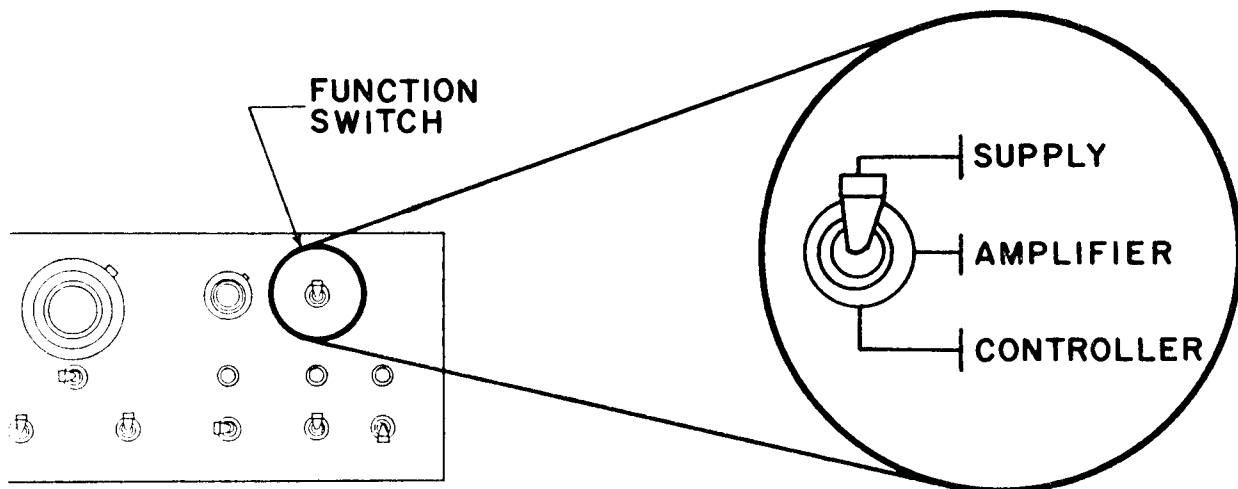

Figure 2. FUNCTION Switch in SUPPLY Position
- b. Set the FUNCTION switch to SUPPLY (see Figure 2).